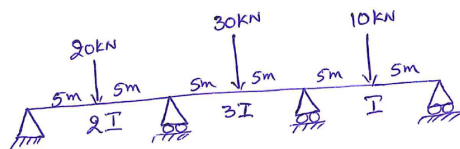

Figure 6
- (b) Develop the stiffness matrix for the continuous beam shown in Figure 6.